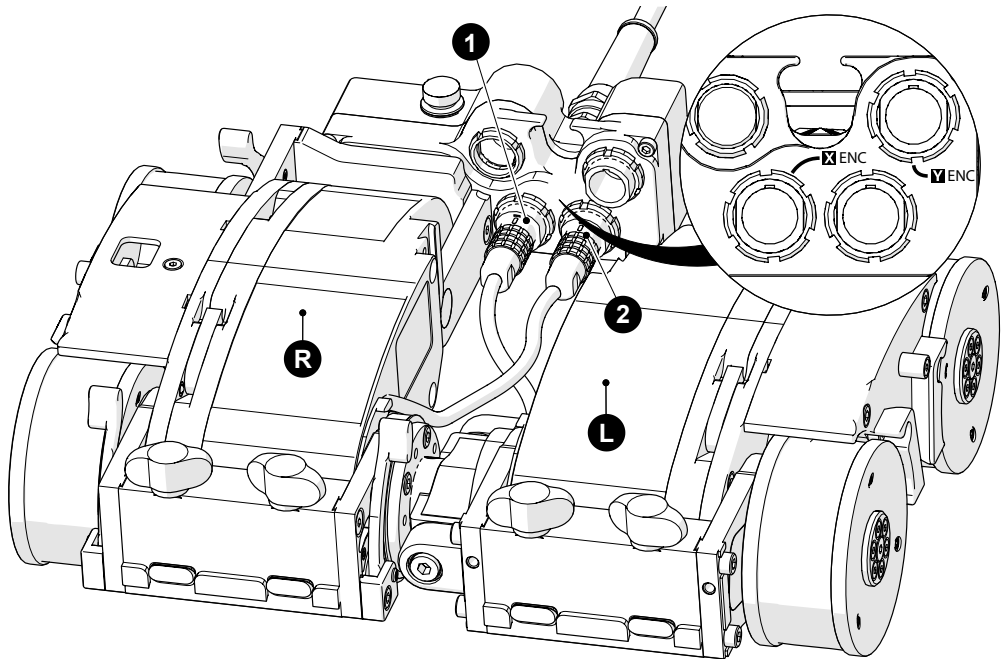

Fig. 319 - Left drive module encoder connection
2. Plug the **L** left drive module's connector into the umbilical's **1 X-ENC** socket (Fig. 319).
3. Plug the **R** right drive module's connector into the remaining **2** socket (Fig. 319).